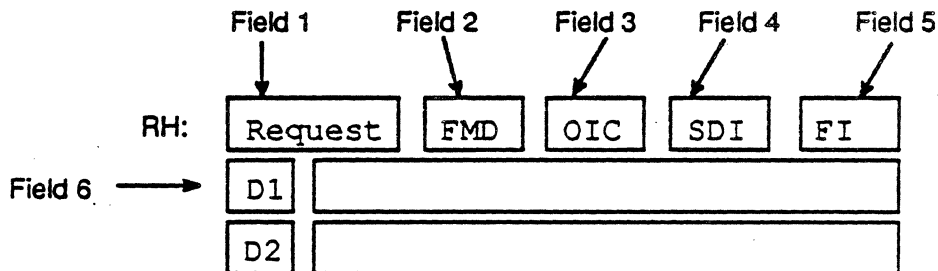

Figure 6.7: RH Component of the SNA Analysis Display
Figure 6.7 below shows the fields of the Request/Response Header (RH) component of the SNA display. The RH contains information about the Request/Response Unit (RU).
The following information may be contained in the fields shown in Figure 6.7: